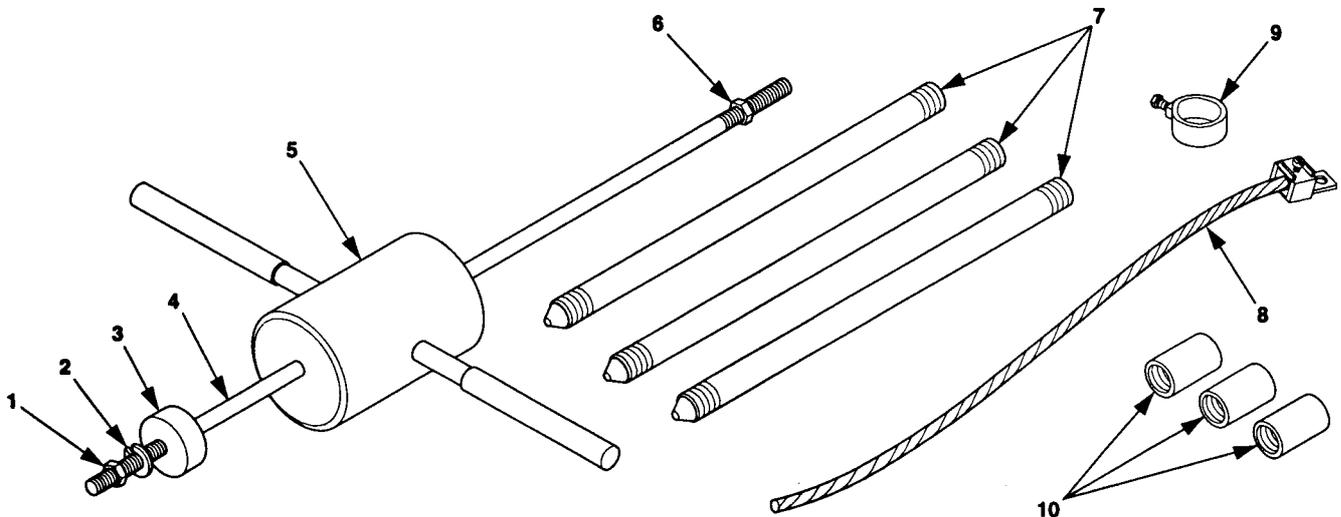

Figure 2-7. Ground Rod, Grounding Syrap, and Slide Hammer.
- a. Remove ground rod, grounding strap, and slide hammer (figure 2-7) from accessory box. Perform assembly steps (1) through (4).
- (1) Install impact disk (3, figure 2-7) on rod (4). Tighten impact disk to end of threads on rod (4).
- (2) Install lock washer (2) and nut (1). Tighten nut (1) and lock washer (2) securely against impact disk (3).
- e. Remove slide hammer assembly and install another section of ground rod (7).
- f. Install another coupling (10) and the slide hammer assembly. Drive ground rod down until new coupling is just above ground surface.
- h. Connect clamp (9) and ground cable (8) to ground rod (7) and tighten clamp screw.
- i. Connect ground cable (8, figure 2-7) to trailer as follows.
- (1) Remove nut (6, figure 2-7) from end of rod (4) and retain.
- (2) Remove hammer (5) from rod (4) and thread nut (6) on end of rod to prevent loss.
- (3) Store hammer (5) and rod (4) with assembled parts in accessory box.